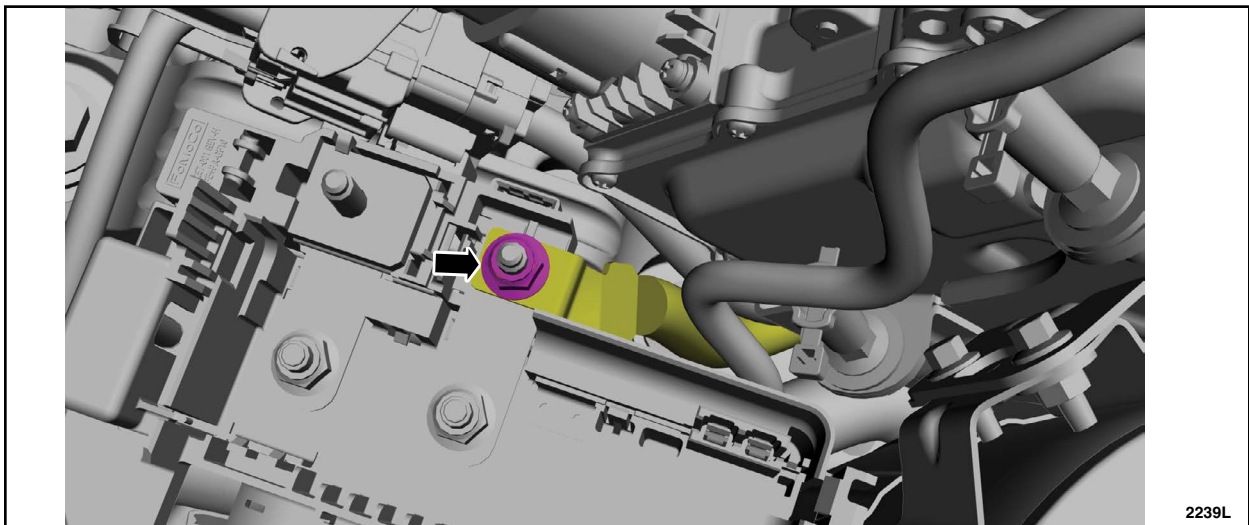

FIGURE 11
15. Remove the nut and position aside the power cable. See Figure 11.